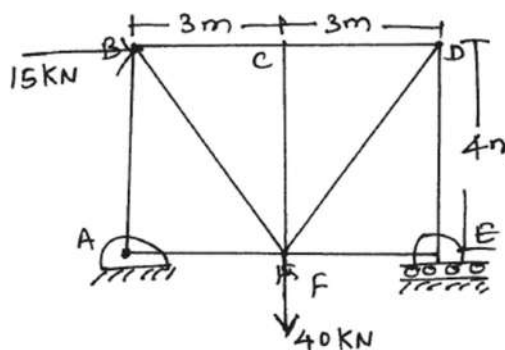

Fig. No. 7
- 16 Determine the forces in any six members of the truss as shown in Fig. No. 7. Tabulate the results using method of section.